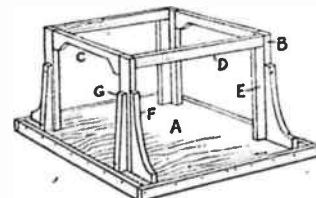

Fig. 1
The floor or 'lower deck' (A) is about 16½ins. long by 17ins. wide, this latter width being made up by nailing together two or even three widths of wood, with cross' battens underneath. The board is edged with narrow battens, for effect, as will be seen from Fig. 1, the fastening nails being spaced evenly and driven well in.
There are four upright rails (E), see Fig. 1, nailed up flush with (B) and to come up under (D).